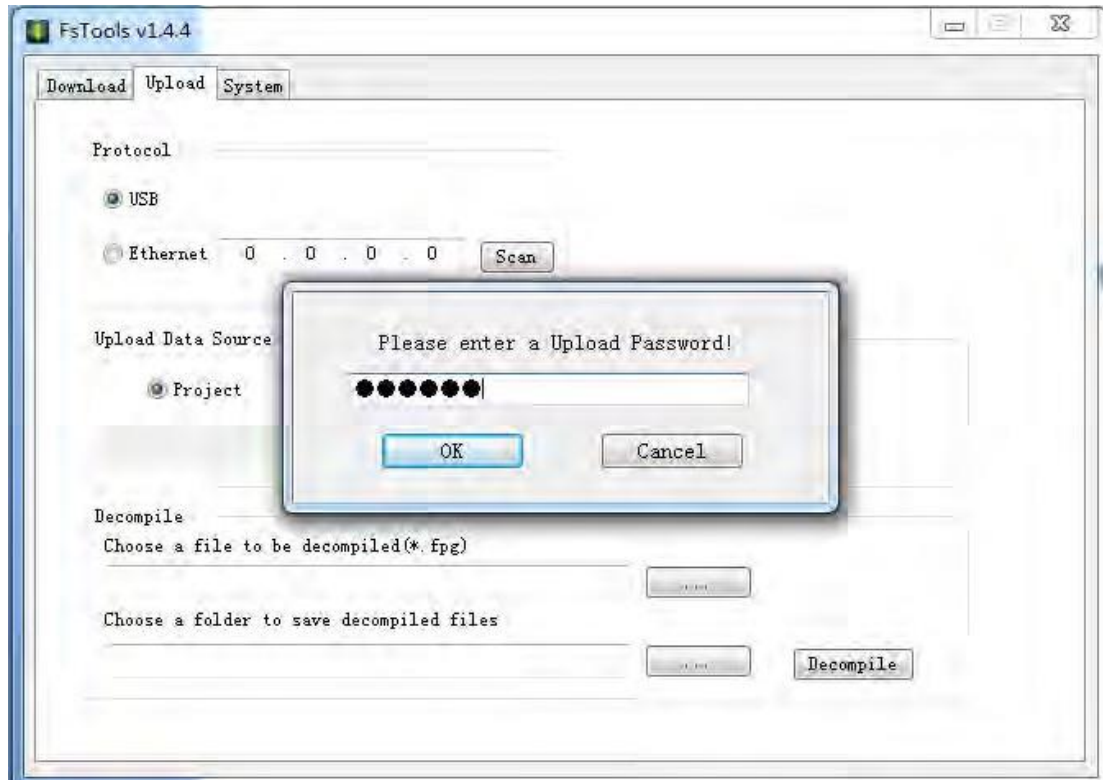
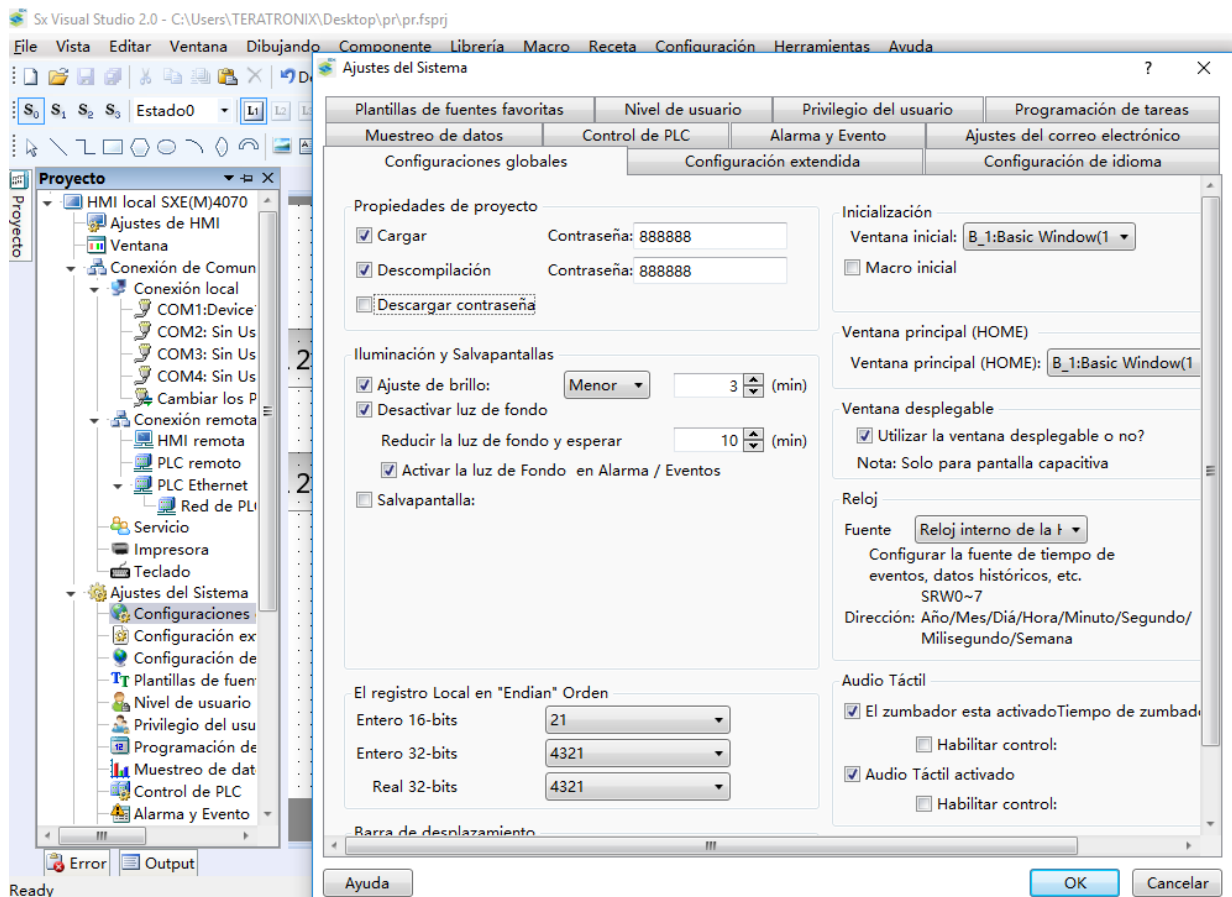

Fig.21
Fig.22
② Enter the password for uploading, as shown in Fig. 21. The default password is "888888" which can be modified in "Global Settings", as shown in Fig. 22.